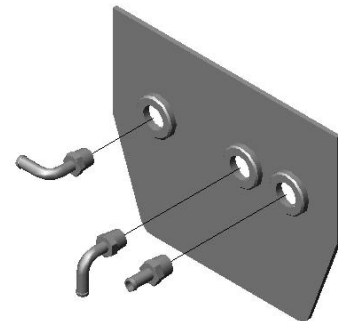

Figure 1
- c. Install the 3 supplied 1/8" NPT fittings in rear of intake (see *Figure 1* below). From left to right (when viewing from the back of the intake) install the two 90 degree fittings first. The left fitting should point to the left. The center fitting should point down. The straight fitting should be installed on the far right.